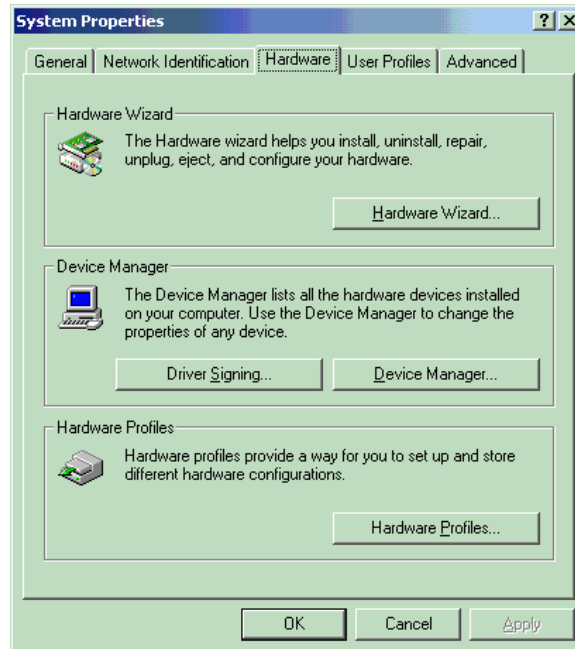

Figure 14. System Properties Window
1. Right-click the My Computer icon on your desktop, and select **Properties**. The System Properties window opens (Figure 14).